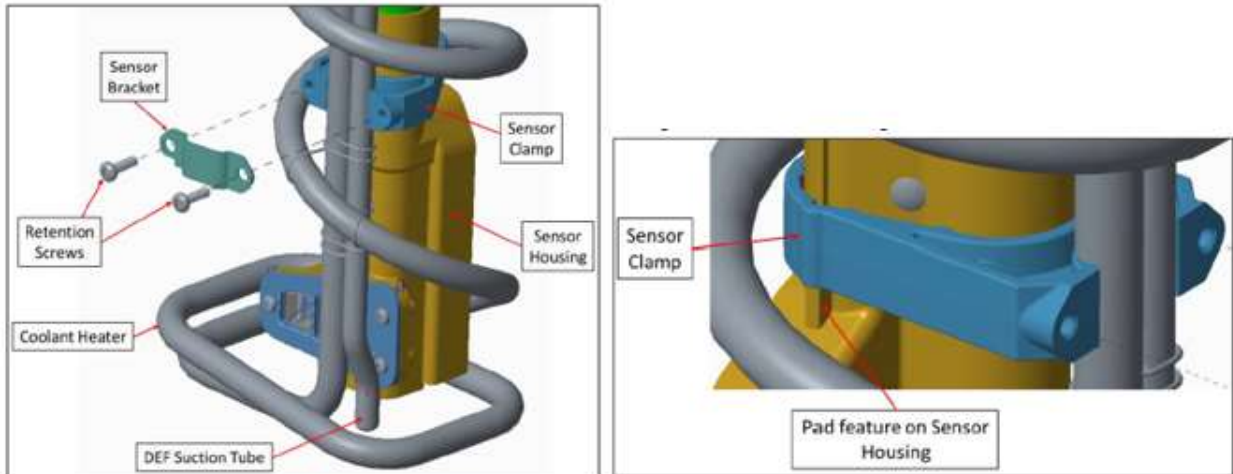

Figure 9: Secure GEN 6 Tri-Function Sensor with the sensor bracket and retention screws.
15. Press the Sensor clamp onto the MFHU tubes to align with the sensor bracket and the foot of the sensor. The sensor clamp must rest on the pad feature of the sensor housing. See Figure 9.